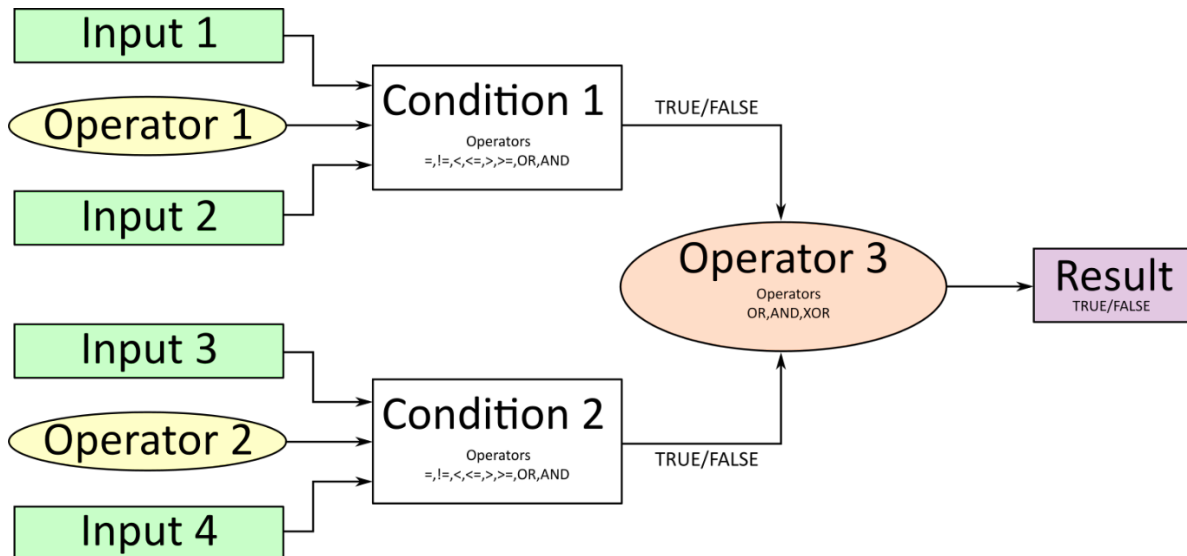

Figure 14: Conditional Block Diagram
The Conditional Block compares up to four different input sources with different logical or relational operators. The result of each block can therefore only be true (1) or false (0). Figure 14 demonstrates the connections between all parameters.